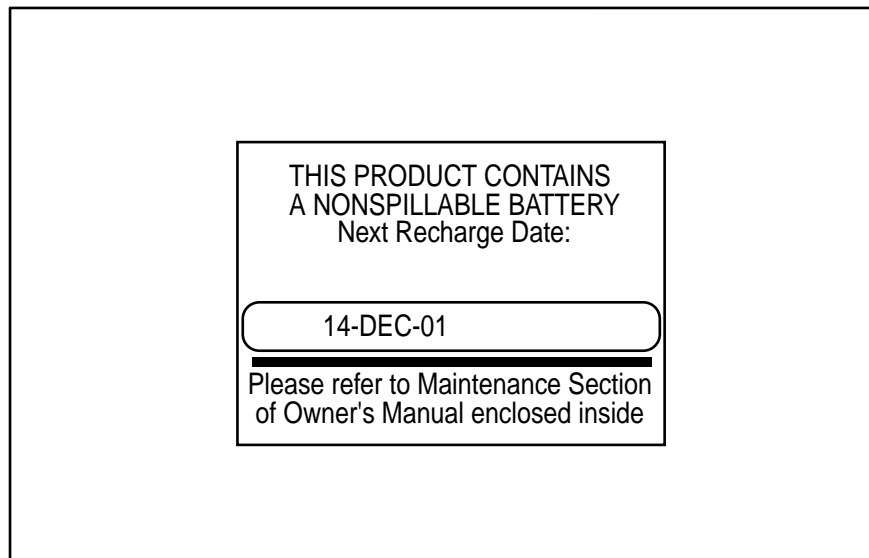

Figure 1-1. Checking the battery recharge date label
**IMPORTANT:** Do not use the batteries if the recharge date has passed (Figure 1-1). If the date on the Battery Recharge Date Label has passed without the batteries being recharged, contact an Authorized Compaq Service Representative.